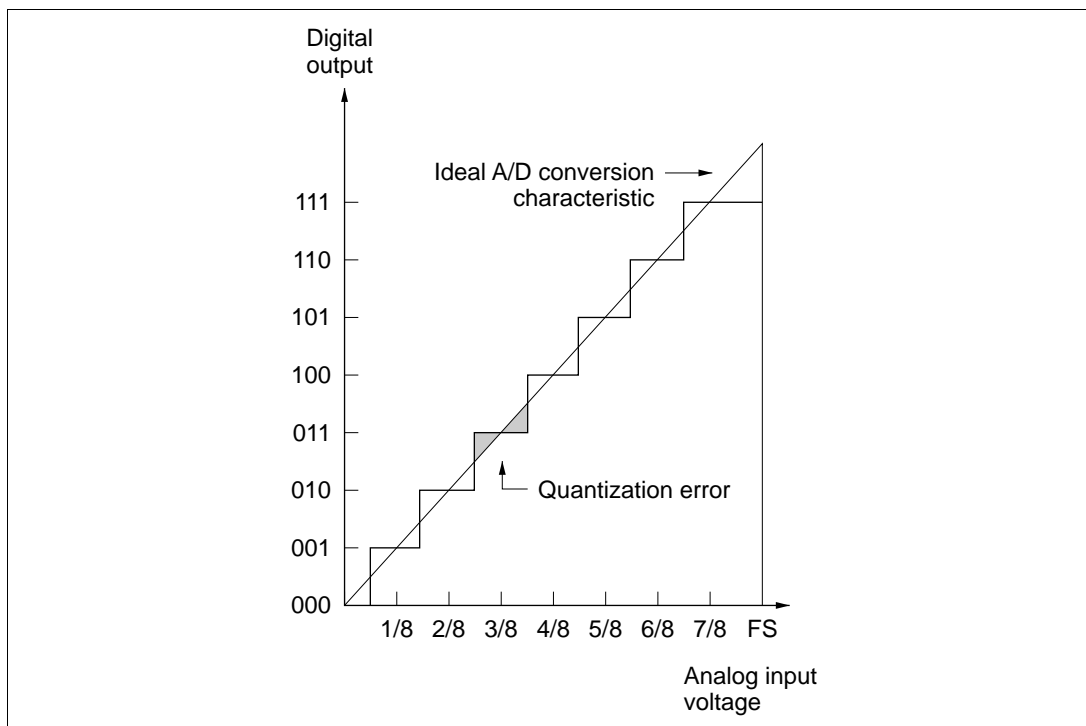

Figure 15.9 A/D Converter Accuracy Definitions (1)
- Quantization error: Intrinsic error of the A/D converter; 1/2 LSB (figure 15.9)